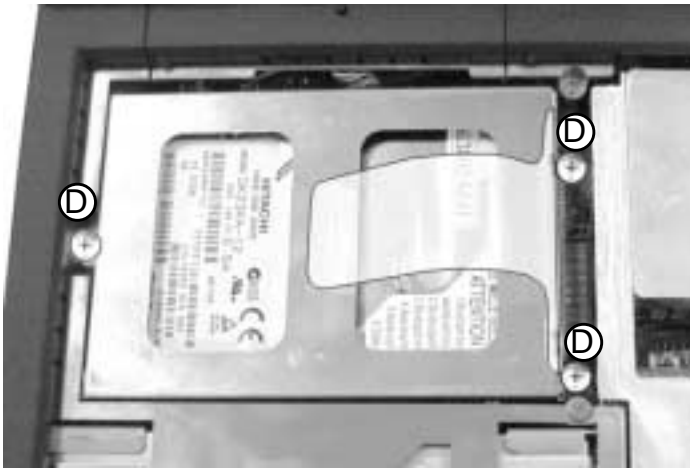

figure 3-5
1. Remove 3 screws (D) holding the HDD assembly in place (figure 3-5).